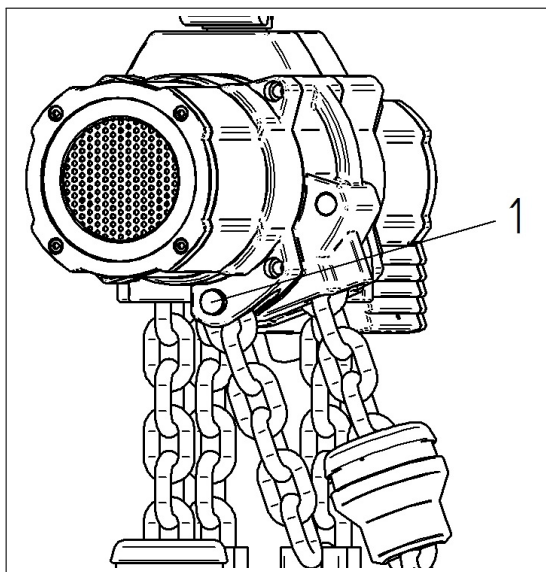

Figure 8: Dead end chain mount
The last link of the dead end chain mount (unloaded chain end) is attached to the empty strand anchorage (→ Figure 8 (1)). This serves the purpose that the empty chain strand does not dangle so long and thus cannot lead to the hazardous situations listed above.